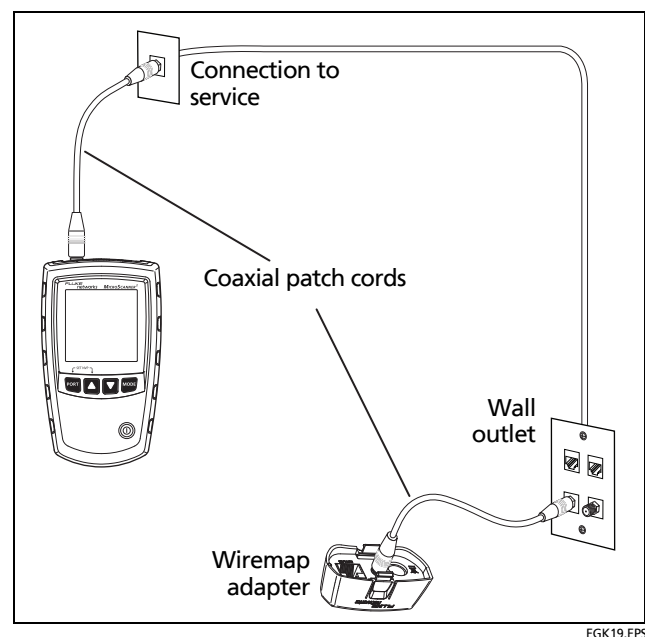

Figure 22. Connecting to Coaxial Cabling
- 3 Connect the tester and wiremap adapter or ID locator to the cabling as shown in Figure 22.